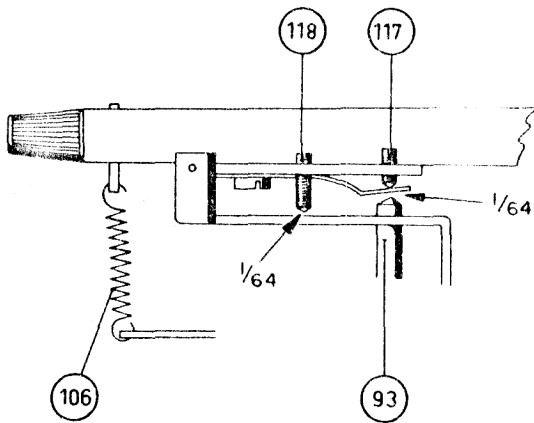

Fig.20
One end of strip 17 is a bevelled lug. When this strip starts moving, the coupling disc 46 is lifted via the lug. The plate 93, resting on the coupling disc with the nylon block 99 is also lifted. The pin, flanged onto this plate presses against the leaf spring 113 (see Figure 20). When this spring is pushed further to the rear, the pin 59 presses against a small lug of coupling disc 46. In this way the disc 46 is turned and the pick-up arm moves outwards through friction between the nylon block 99 and the coupling disc. When strip 17 returns to its original position, spring 82 pulls the lug of the coupling disc 46 against the pin 59. The lug now follows the movement of the pin again and the coupling disc rotates in the opposite direction. The pick-up arm is taken along again and now moves inwards. At the moment, when the bevelled lug of strip 17 is under the pin of the coupling disc 46, the pick-up arm is lowered again.
Turn the set screw 117 (see Figure 20).
2. If a record with minimum thickness lies on the turntable, the distance between the set screw 118 for the lowest position and the bracket of the lifting mechanism must be at least $1/64''$. This can be adjusted by turning the set screw. The distance between the lifting pin and the leaf spring 113 must be $1/64''$. This can be adjusted by turning the screw 117. After this adjustment check point 1 (see Figure 20).